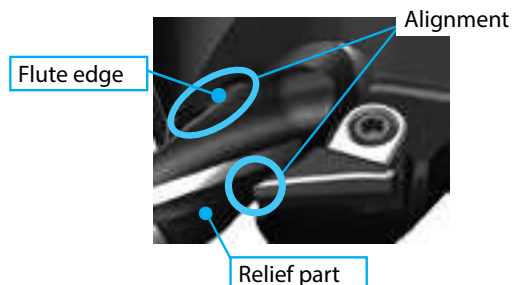

Fig. 4 DRA alignment
4. Align the flute edge and black relief part of the drill to the position shown in Fig.4 by rotating the DRA drill.